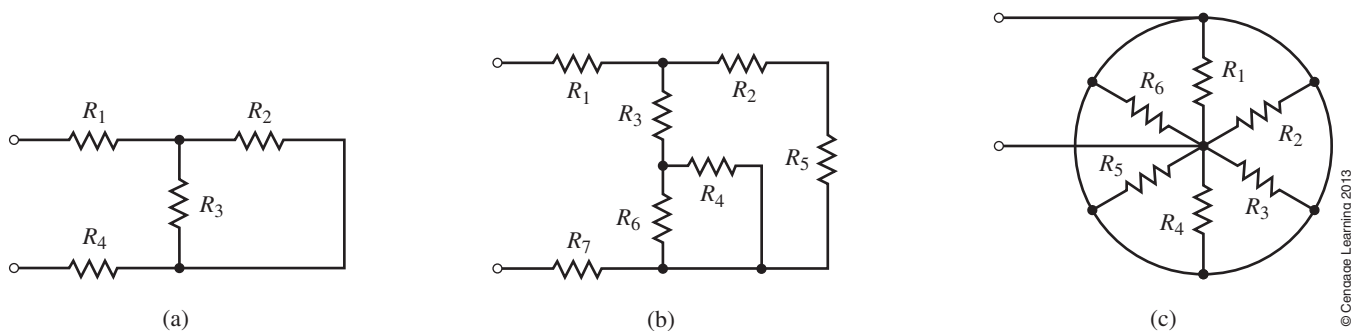

FIGURE 6–45
3. Without changing the component positions, show at least one way of connecting all the elements of Figure 6–46 in parallel.